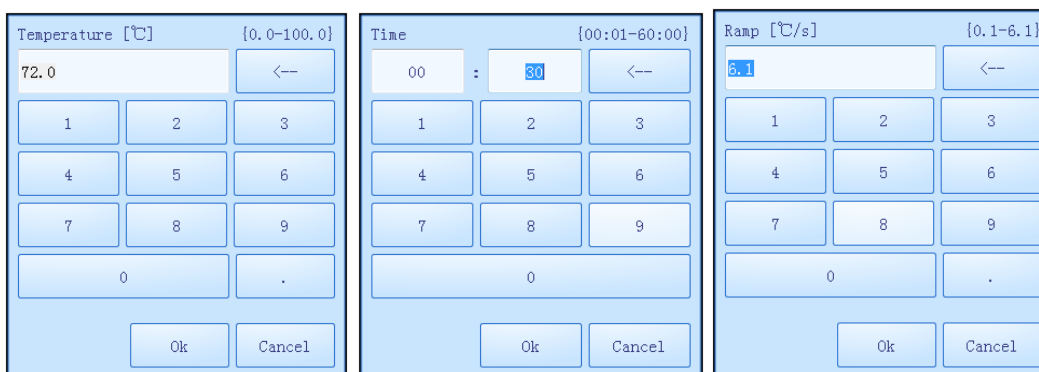

Figure E-3.4a. Step Edit Window - Standard Step Parameter Setting
- User can press the input boxes of **Temperature**, **Time** and **Ramp** to edit the corresponding parameters for the current standard step, as shown in figure E-3.4a.